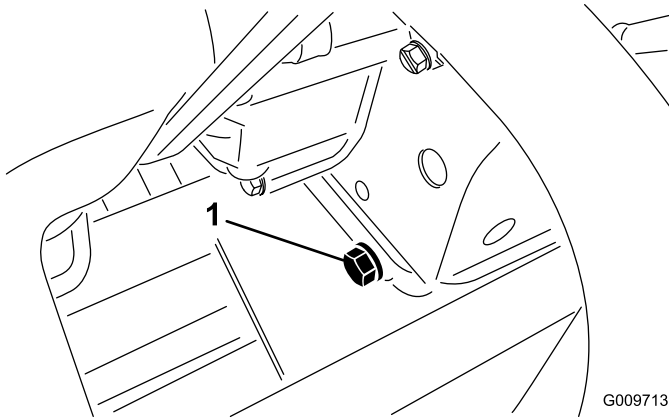

Figure 58
1. Remove the rear drain plug (Figure 58) and let the oil flow into a drain pan. When the oil stops, install the drain plug.